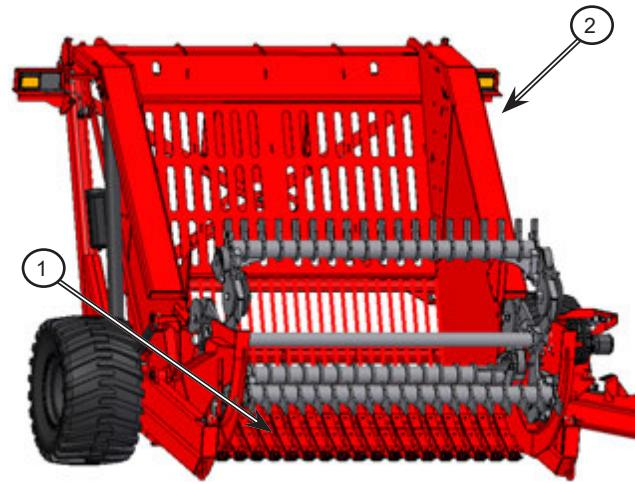

Figure 4.13: Check the condition of the apron and the bucket
1. Check the condition of the apron (1) and the rock bucket (2); see *Figure 4.13*.